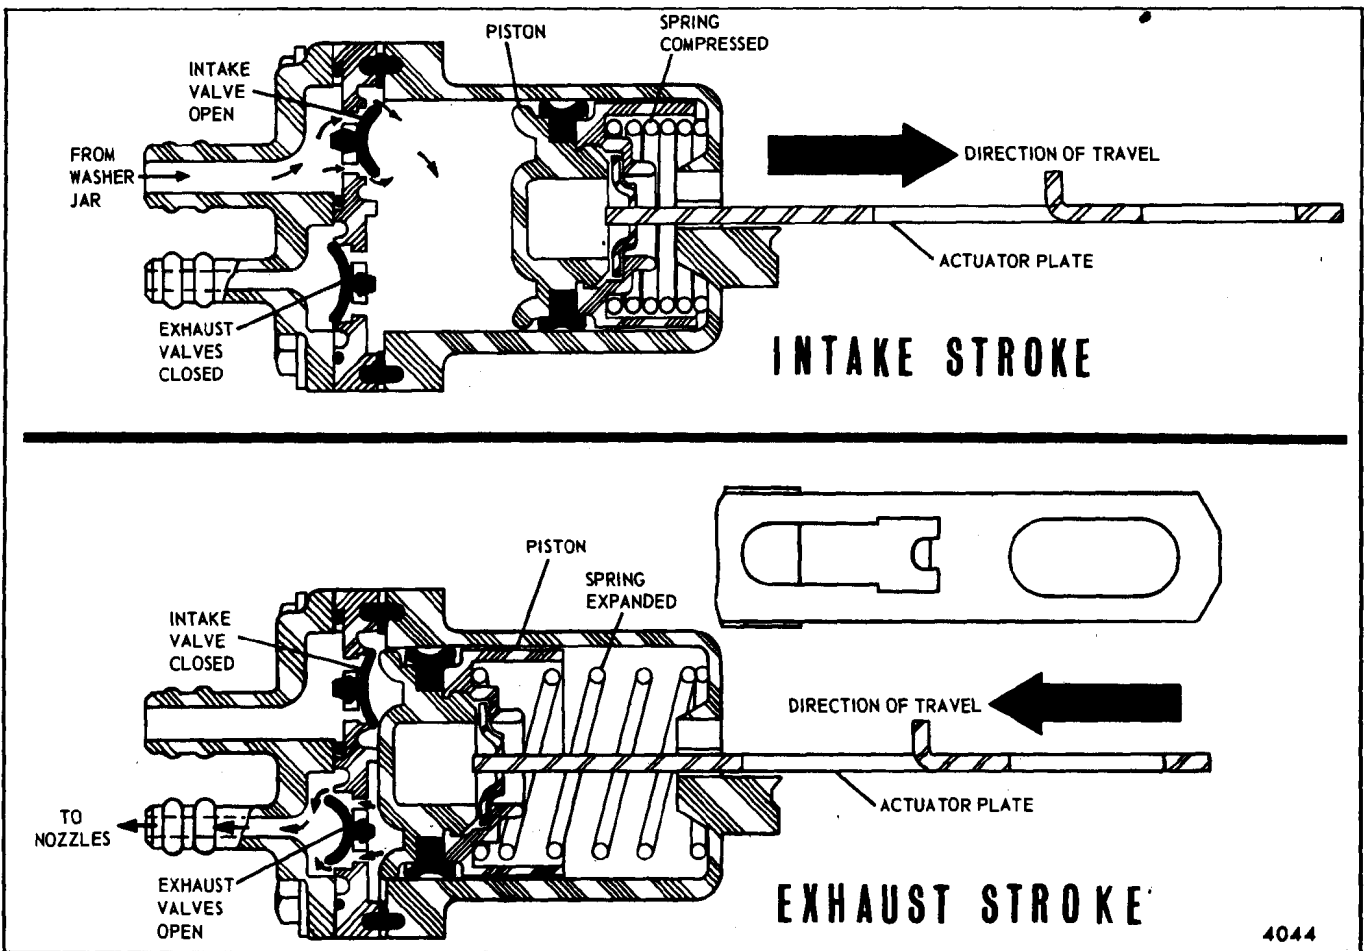
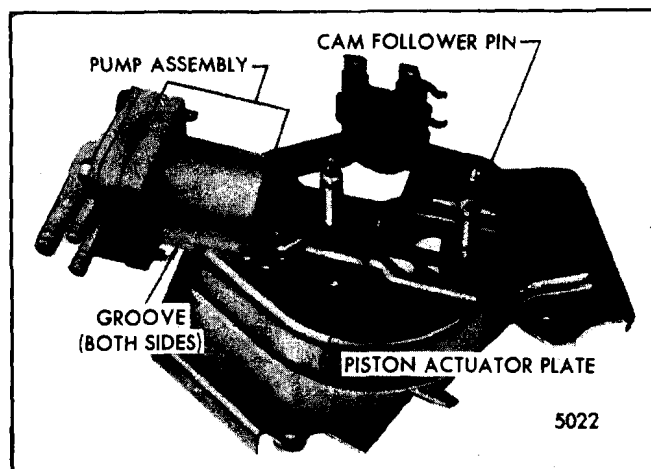

Fig. 2-58-Intake and Exhaust Stroke
Fig. 2-66-Pump Intake Stroke
When the piston actuator plate is released from the "lock-out" position the piston spring, which had been held in a compressed position, expands pushing the piston toward the valve assembly resulting in the first exhaust stroke (Fig. 2-58). The movement of the piston toward the valve assembly also pulls the piston actuator plate in the same direction causing the back edge of the elongated opening in the actuator plate to move up tight against the upper cam follower pin.
As each lobe actuates the follower, the cam follower in turn moves the piston actuator plate and piston away from the valve assembly compressing the piston spring. The movement of the piston away from the valve assembly creates a vacuum in the pump cylinder which draws the wash solution into the pump cylinder through the intake valve (Fig. 2-58).
Referring to Fig. 2-66, note that the elongated slot of the piston actuating plate fits over a pin. This pin is a part of a cam follower assembly which is actuated by the 4-lobe cam located on the underside of the pump mounting plate. When the wiper is running, the drive gear rotates the 4-lobe cam which in turn causes the cam-follower to move back and forth.
When the cam-follower moves in the direction indicated by the arrow in Fig. 2-66, the cam-follower pin, which extends thru the piston actuating plate, pulls the actuator plate away from the valve assembly compressing the piston spring. As the piston moves away from the valve assembly, a vacuum is created in the cylinder which opens the intake valve, drawing washer solution into the cylinder (Fig. 2-58).
As the 4-lobe cam continues to rotate, the cam-follower pin moves in the opposite direction described in the Intake Stroke. This permits the piston spring to expand which in turn pushes the piston toward the valve assembly creating pressure between the piston and valve assembly. This pressure "build-up" forces the washer solution out the two exhaust valves to the nozzles (Fig. 2-58).
2. To release the plastic pump housing from the sheet-metal base, pull it in the direction toward the valve end until the grooves in the housing clear the base. Next, detach the assembly from the cam-follower pin (Fig. 2-66).